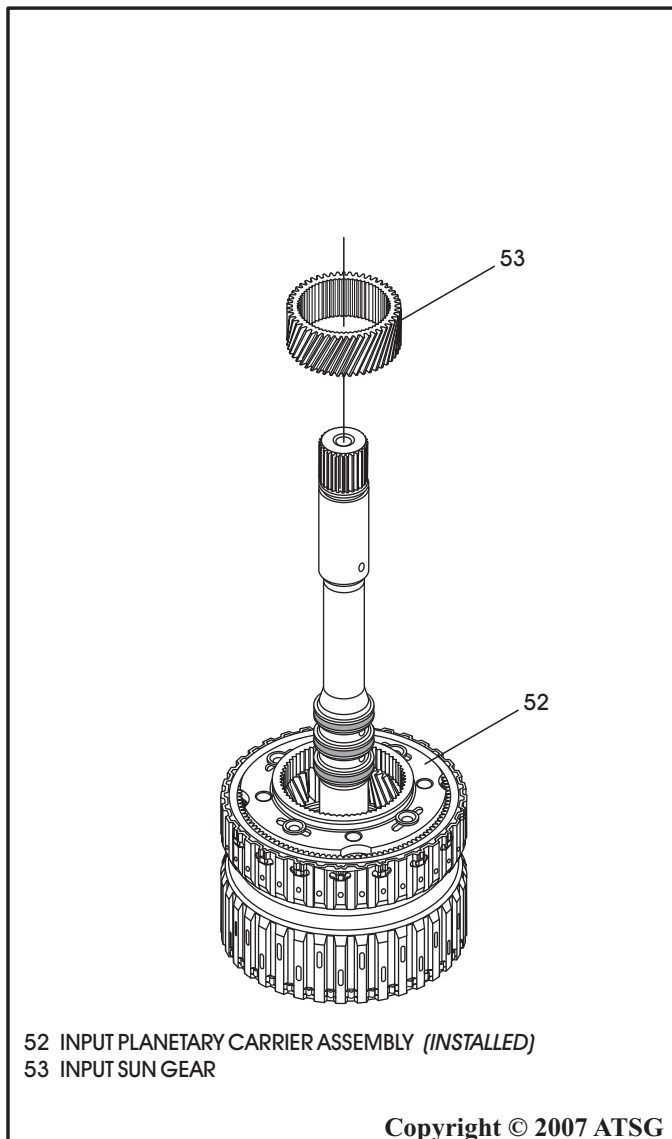

Figure 162
19. Install input sun gear, as shown in Figure 162, with a rotating motion until fully seated.